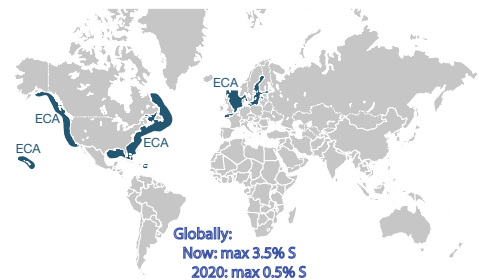

Fig. 1: World map illustrating major sulphur emission controlled areas (SECAs) and the sulphur limits in force
On 1 January 2020, the global sulphur (S) cap on marine fuels will be reduced from 3.50% to 0.50% S (Fig. 1). This landmark decision, which will have a major impact on the marine industry, was taken in 2016 at the 70th session of IMO’s Marine Environment Protection Committee (MEPC 70). However, the continued use of high-sulphur HFO is allowed provided that an exhaust gas cleaning (EGC) device is installed and certified, to comply with the new sulphur regulations.